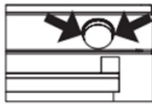
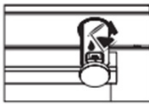
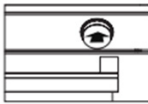
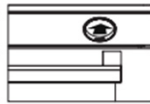

Figure 8
Figure 9
Figure 10
Figure 11
1. Remove the water container by pulling it out at the points indicated by the arrow. Fill the water container (see figure 8) and slide it in the direction of the arrow to the starting position to put it in place (see figure 9). (See Figure 10) After 10 minutes of preheating, slide the water container in the direction of the arrow until you hear a "click". (see figure 11).